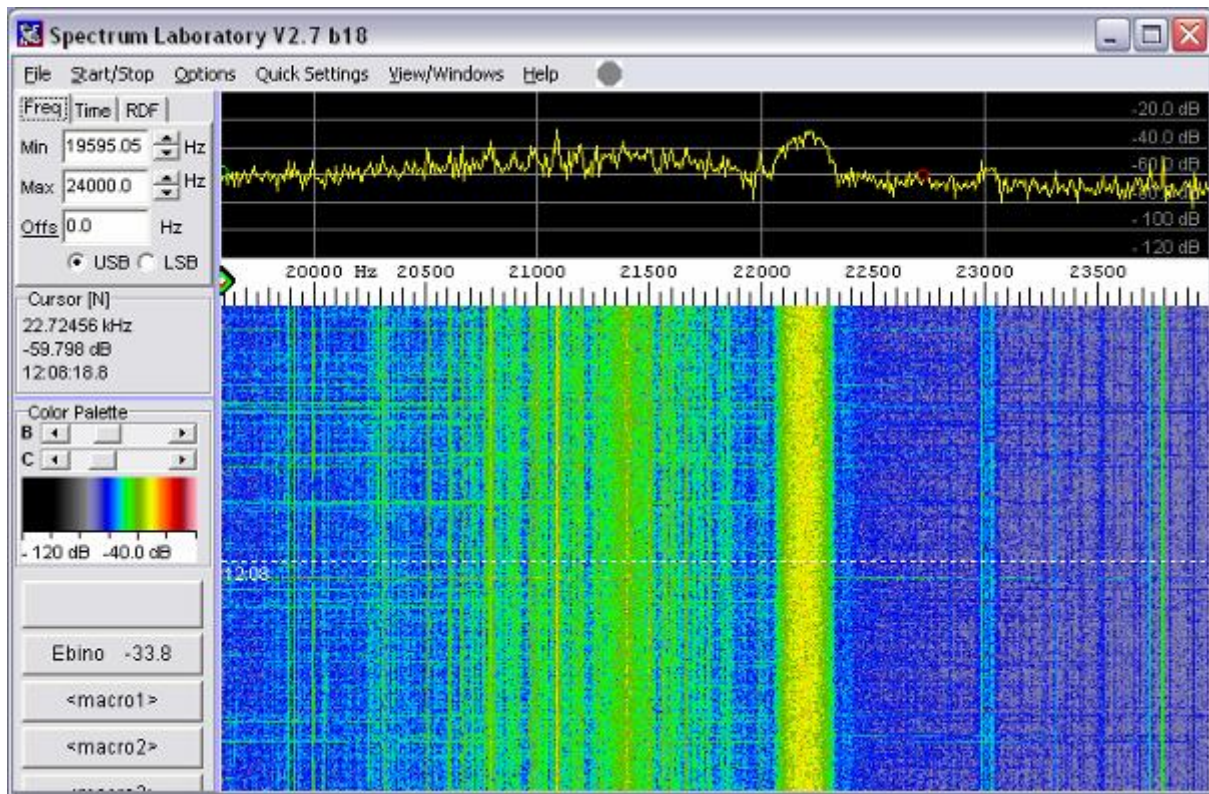

Fig 8.6. Spectrum Lab's waterfall display. Zooming in on a VLF signal at 22.2 kHz
- There is a clear signal from a VLF transmitter at 22.2 kHz. This is the signal of interest. Figure 8.6 zooms in on the region immediately around 22.2 kHz. The signal itself is 200 Hz wide, which is a clear signature of a VLF transmitter. (Coded communications are contained within the 100 Hz side bands either side of the central frequency, but we will not be decoding these, just monitoring the overall power)